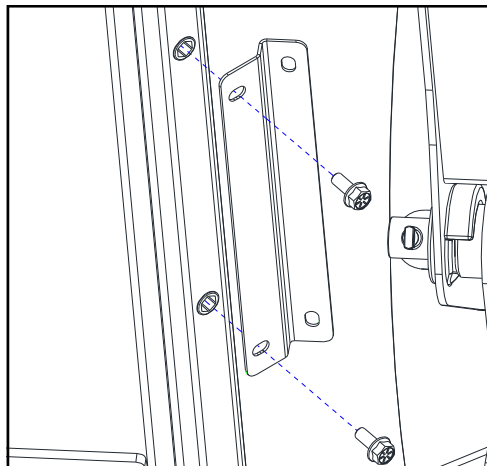

Fig. 3.1
3.1 Per Figure 3.1, fasten the left front leg bracket to the ROPS using the factory installed inserts and the hardware listed below. **Install finger tight at this time.**